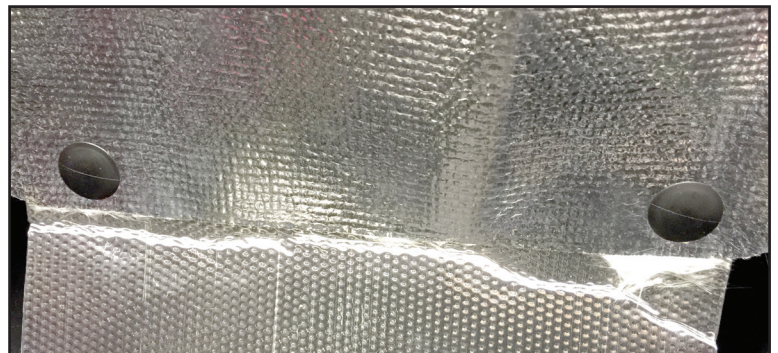

Figure 8
9. Use supplied push pins through the glass fiber shield and hard shield. Fig 8